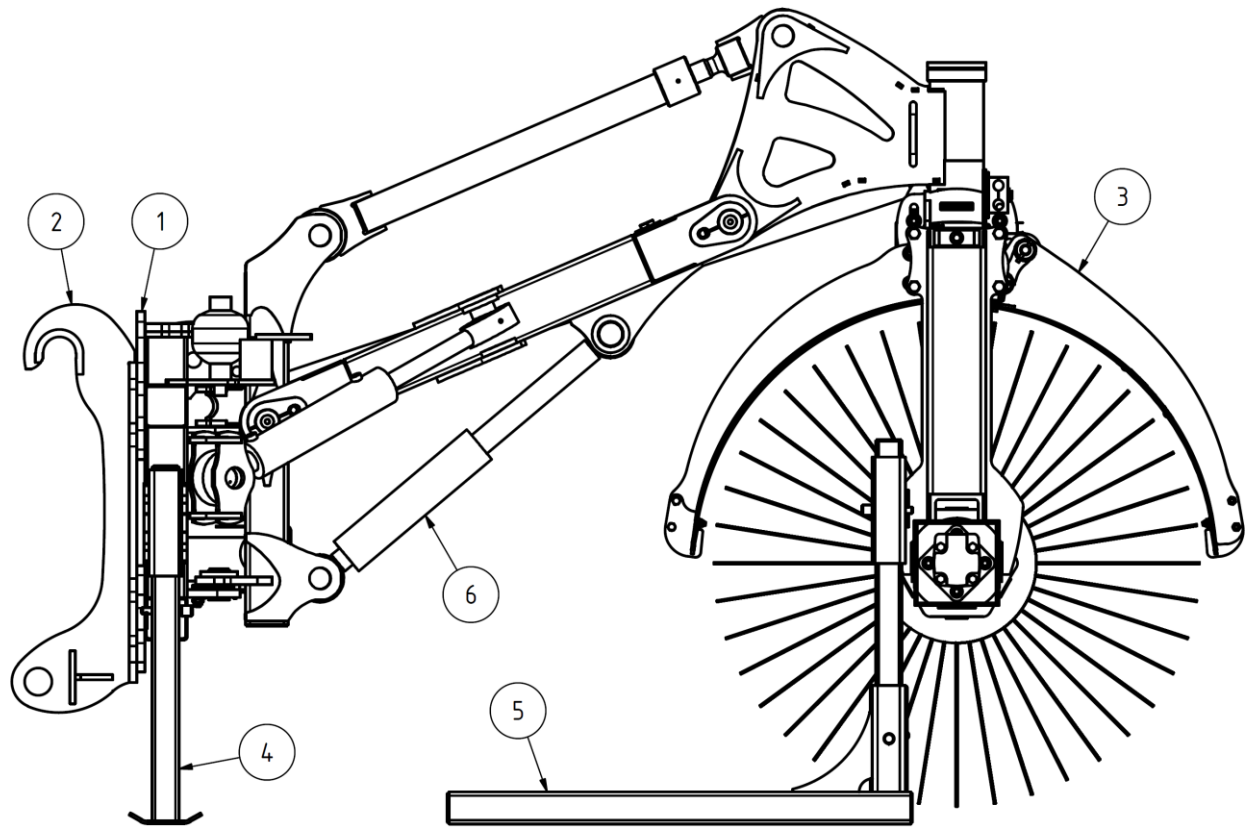
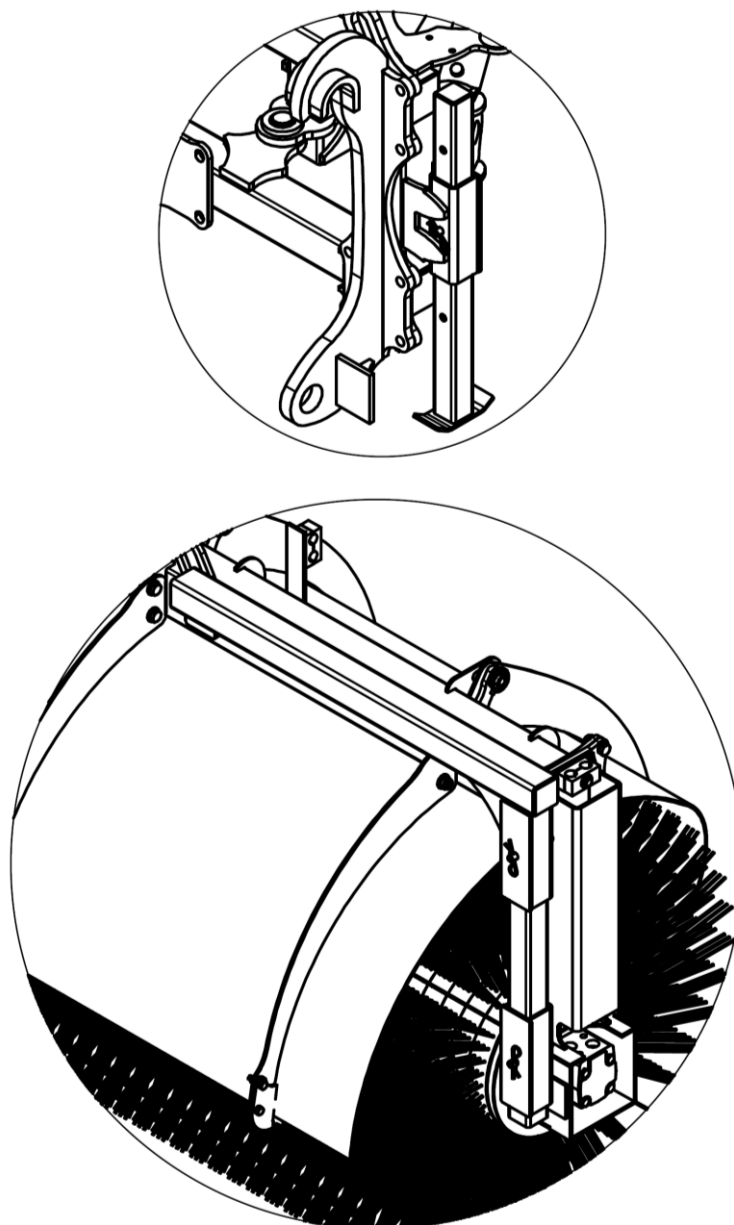
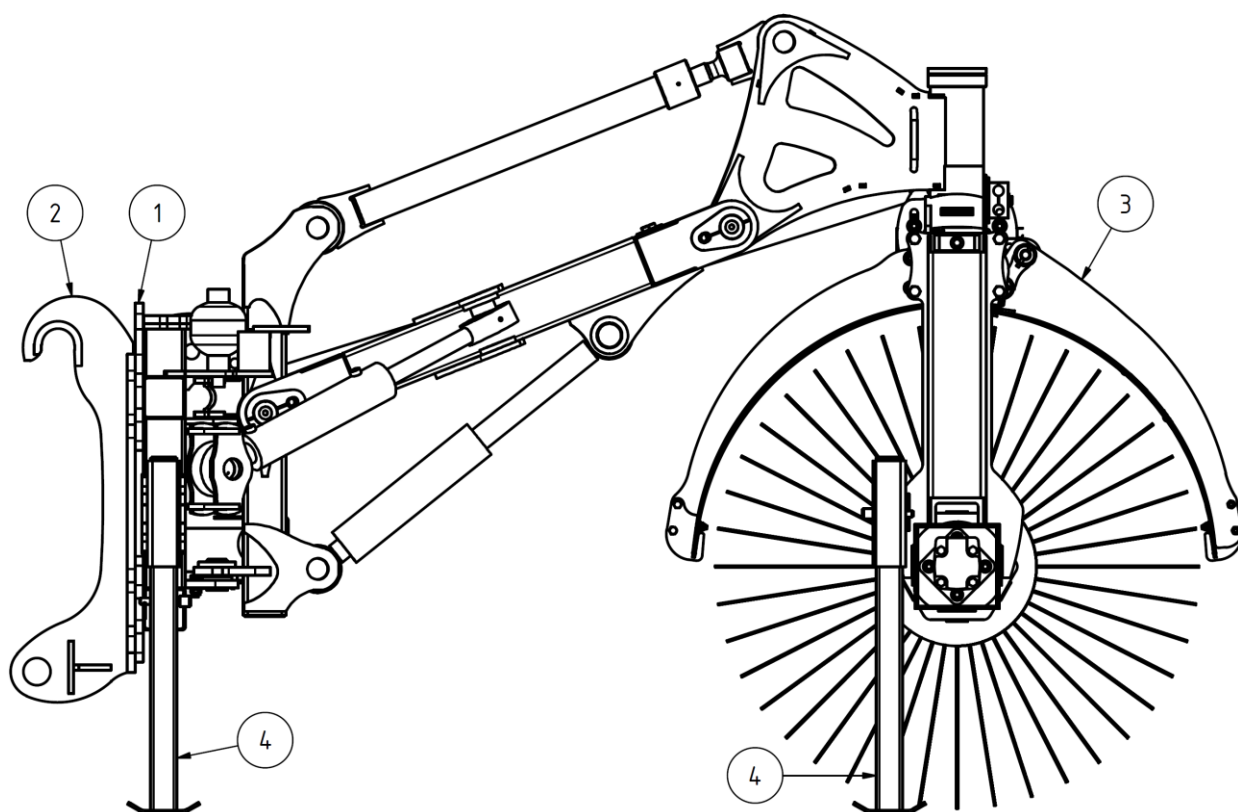
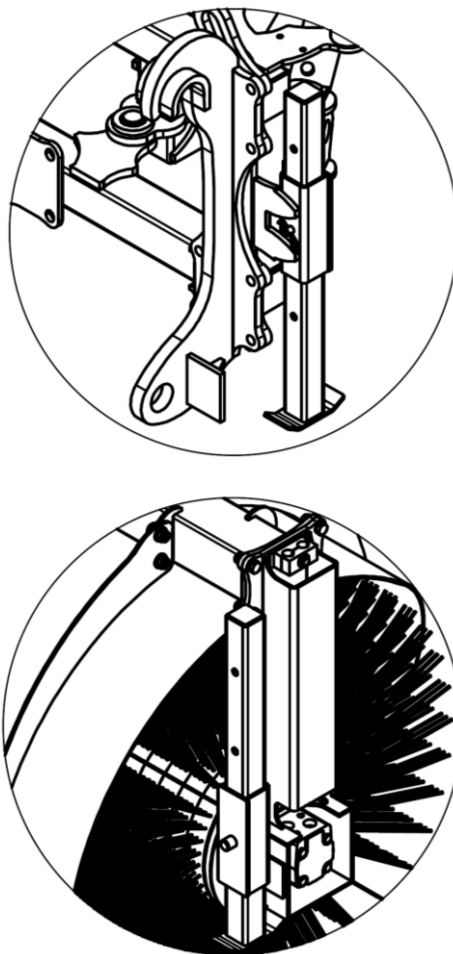

Figure 5 – Mounting the rotary broom on a vehicle
Figure 6 – Working positions for support legs
Figure 7 – Mounting the rotary broom on a tractor
Figure 8 – Working position of the support legs.
- Check that there are no people or objects near the rotary broom that the brush might injure or damage. In addition, safety of people carrying out maintenance of the rotary brush, repairing the device or moving it with the help of hydraulics or any other lifting mechanism has to be ensured. Failure to follow safety requirements may result in causing injuries to people (the brush is provided with safety markings, see figure 5).
- Drive the vehicle as close to the mounting frame (1, Figure 5) of the broom in the parking position (Figure 5) as possible and connect the hydraulic hoses to the vehicle's quick coupling.
- Use the lifting cylinder (6) to lift the mounting frame of the brush to such a height that the fastening eyes (2) are over the upper edge of the mounting frame of the vehicle.
- Lift the fore part (3) of the rotary broom, lift the support legs (4) attached to the mounting frame higher and turn over the support legs (5) attached to the fore part of the brush, as shown on figure 6.
- Lift up the fore part of the brush (3, Figure 5) and lower down the support legs (5) into the parking position, as shown on figure 5.
- Disconnect the mounting frame (1) of the rotary broom off the mounting frame of a vehicle.
- Lift the mounting frame of the broom off the mounting frame of the vehicle with the help of the lifting cylinder (6).
- Drive the tractor as close to the mounting frame (1, Figure 7) of the broom in the parking position (Figure 7) as possible and connect the hydraulic hoses to the tractor quick coupling.
- Guide the tractor mounting frame next to the broom frame and lift the first frame so that the fastening eyes (2) are over the upper edge of the mounting frame of the tractor.
- Lift the support legs (4) attached to the mounting frame and the fore part (3) of the rotary broom, higher and turn over the support legs (4) attached to the fore part of the brush, as shown on figure 8.
- Lift up the fore part of the brush and lower down the support legs (4, Figure 7) into the parking position, as shown on Figure 7.
- Lower the broom and disconnect the locking of the mounting frame (1) of the brush off the mounting frame of the tractor.
When the brush is not in use, it shall be stored in parking position, as shown on Figure 5 and Figure 7. In this position, cylinders of support legs are adjusted to the lowest position.